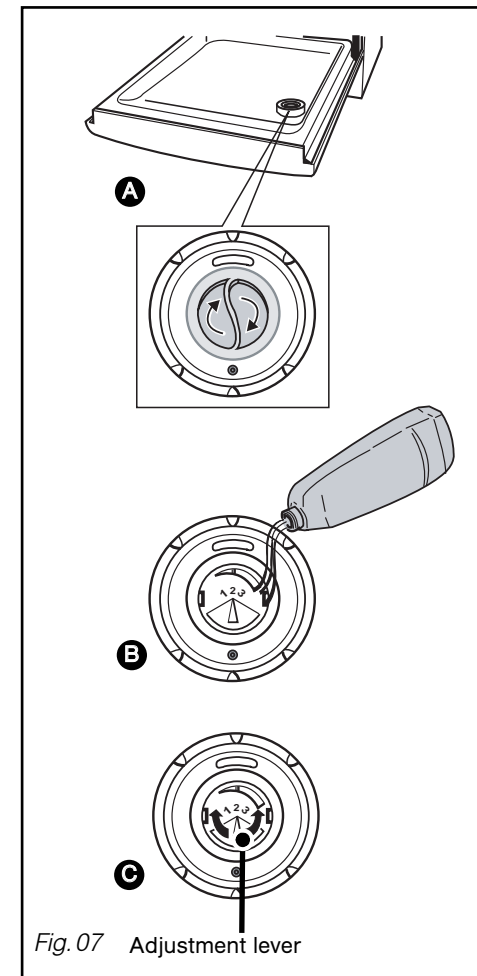

Fig. 07 Adjustment lever
• Loading of rinsing product (Fig. 07)
The original setting is in the centre (middle position: reference mark 2). If you encounter marks or poor drying after a few cycles, you can adjust the setting using the adjustment lever (fig 07 **C**; Reference mark 3 will increase the setting).